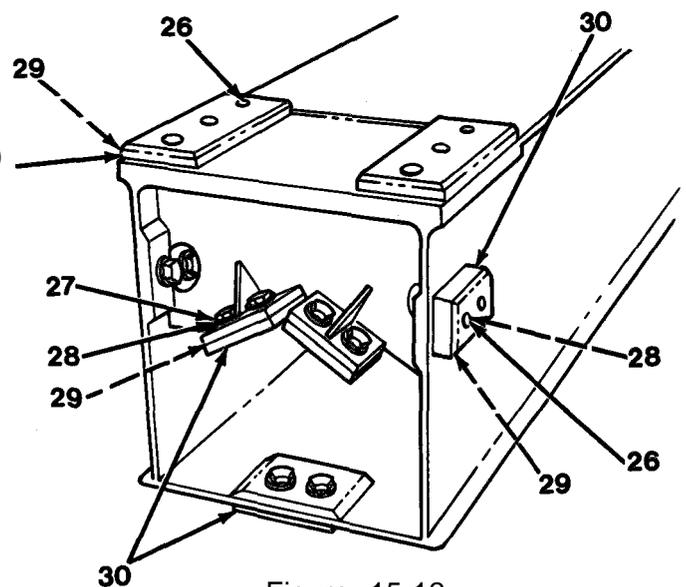

Figure 15-12
9. Remove 10 capscrews (26), 6 capscrews (27), 16 washers (28), shims (29), 5 small pads (30) and 2 large wear pads (31, Figure 15-12) from end of boom tip. Inspect pads (30) and (31) and replace if worn.